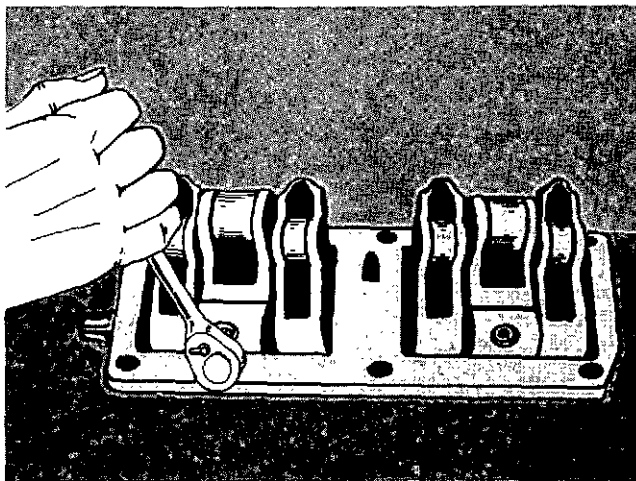

Fig. 4-25. Tighten The Setscrew For The Eccentric.
8. Tighten the setscrews in the eccentrics to 45 to 55 ft.-lbs. [61 to 75 N•m] torque, Fig. 4-25.